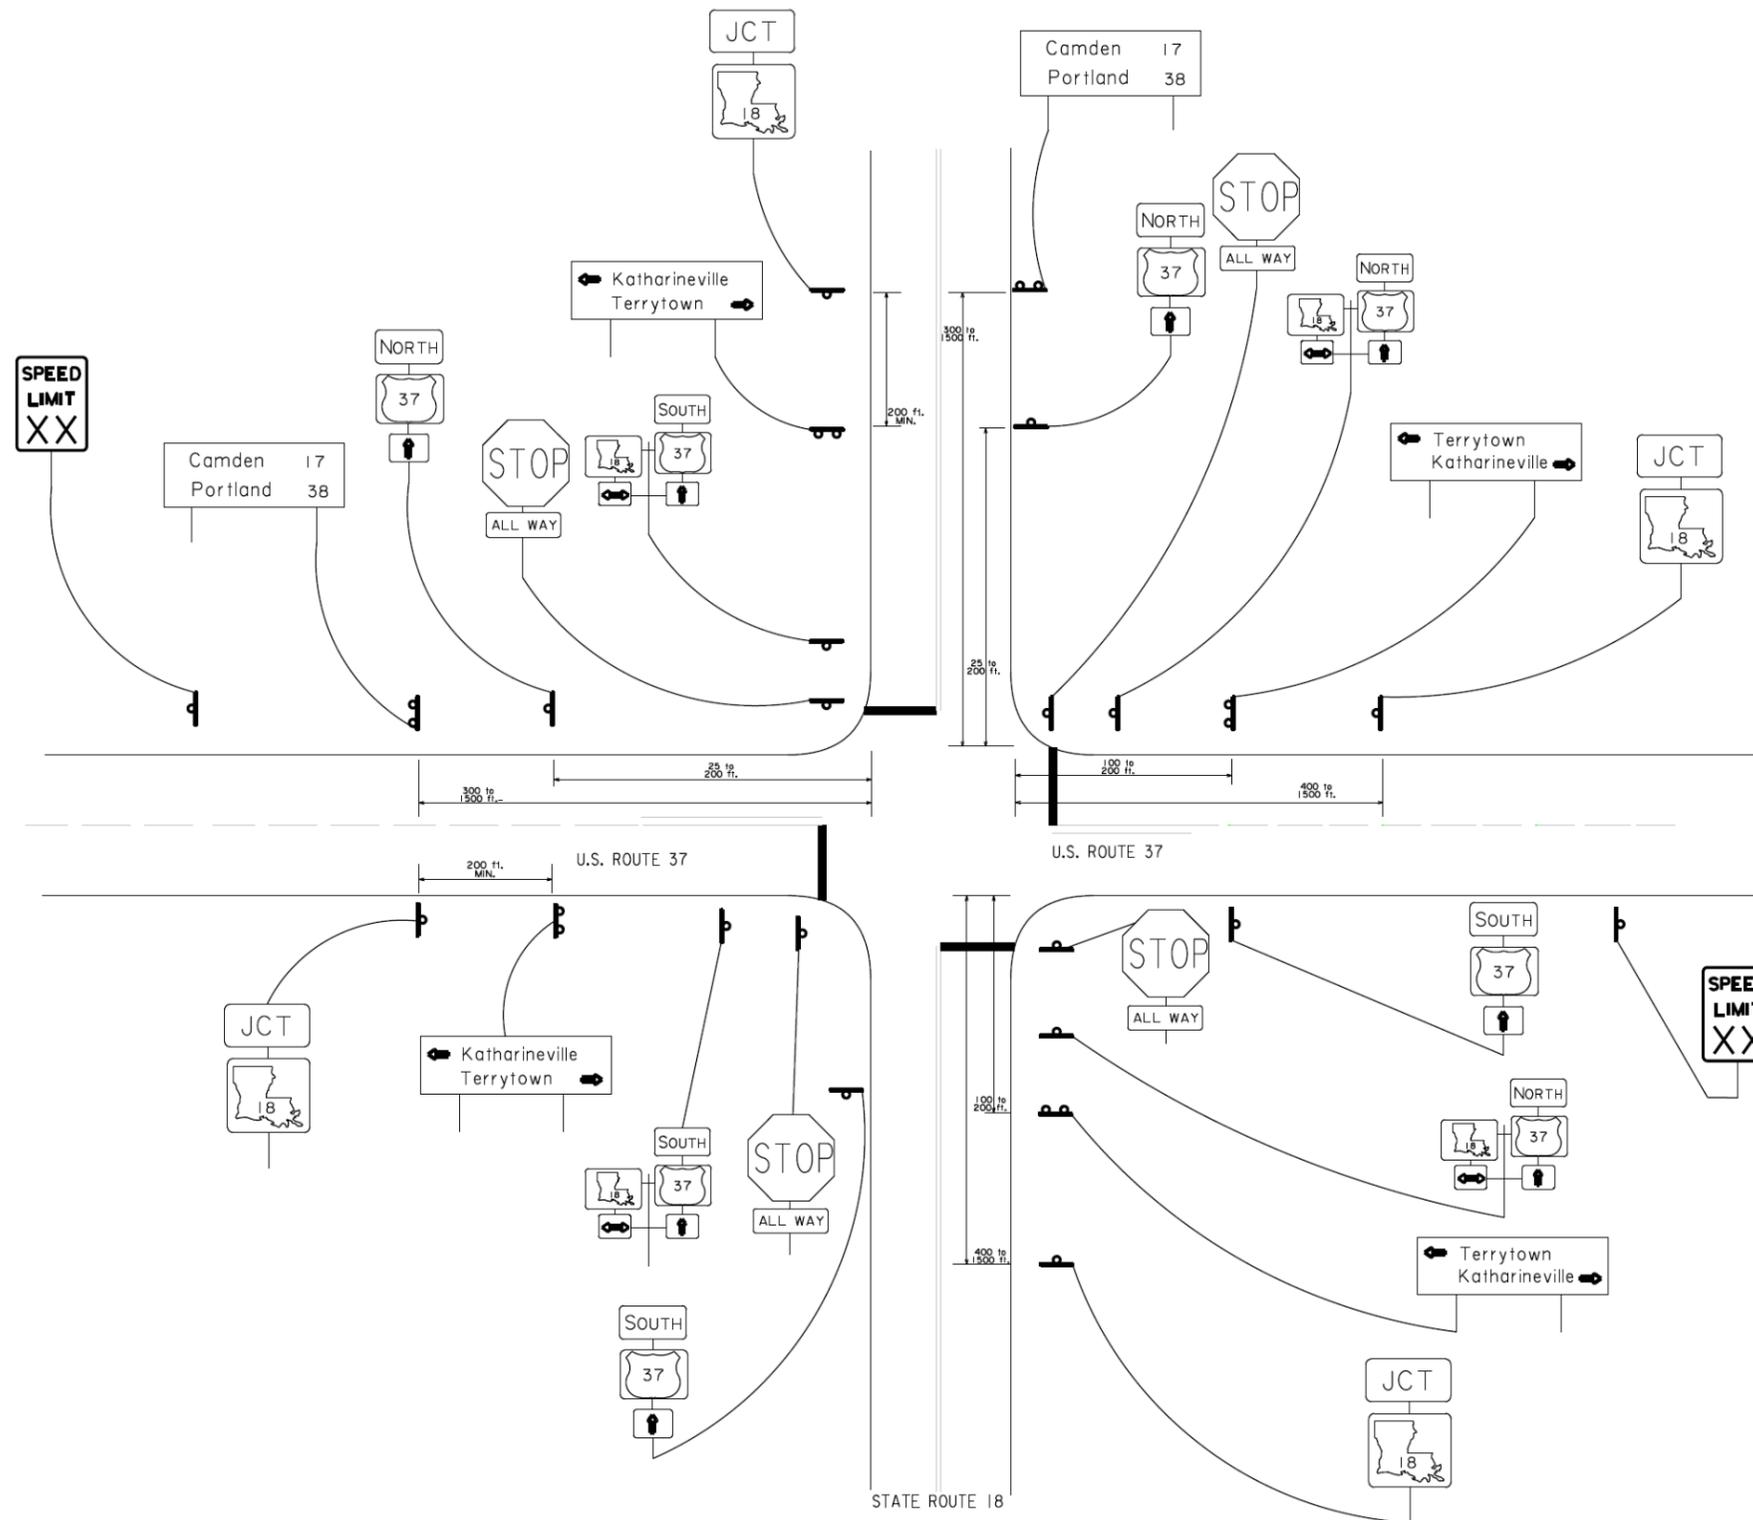

Figure 3-1: Route Sign Assembly
• **Route Sign Assembly on Non-Interstate Routes (See Figure 3-1: Route Sign Assembly)**